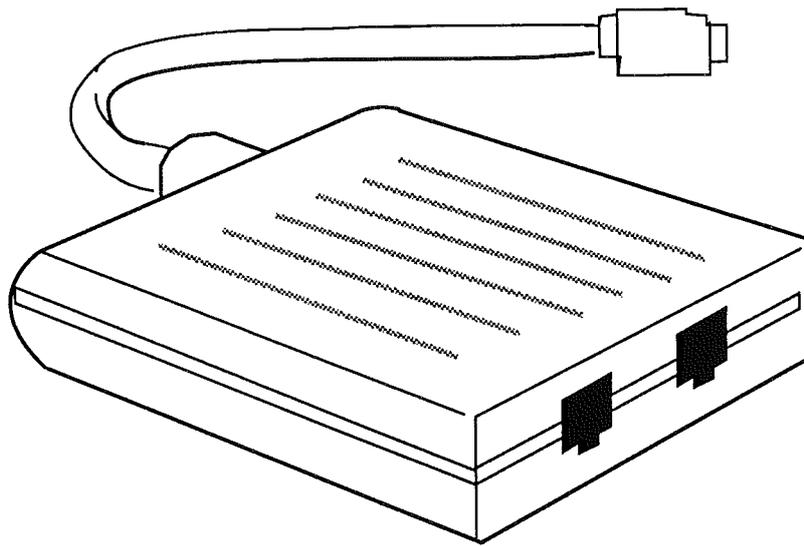

FIGURE 11
□ DATA ACCESS ARRANGEMENT (DAA) (Figure 11)